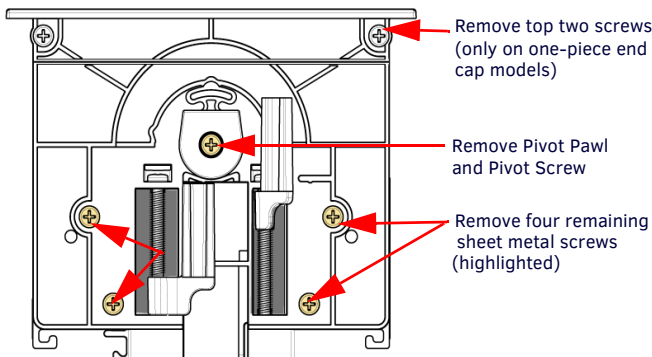

FIG. 2 HPX BASE ASSEMBLY - MOUNTING/PIVOT SCREW LOCATIONS
1. Remove the (silver) pivot screw in the center of the End Cap (FIG. 2). There is an internal tooth washer underneath it. Keep them together for re-installation.
3. Secure the End Cap with the 4 to 6 (black) sheet metal screws (FIG. 2).